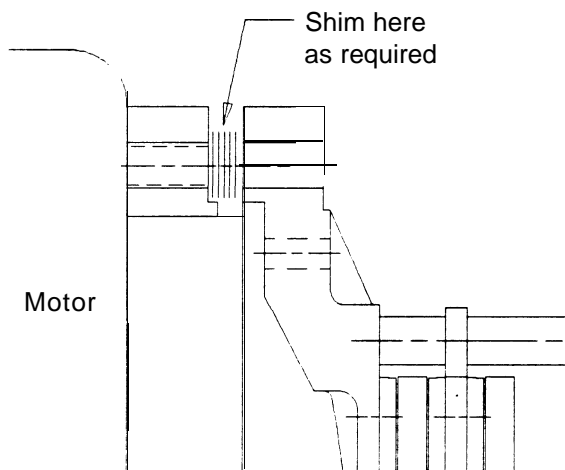

Fig. 8
- 2.6.4 Using a prying tool, adjust the position of the outer disc (4) to ensure that it is resting against the outer spacer plate (102) on the gear.
Note: It may be necessary to add an equal number of shims (101) at each of the four brake mounting points to create a gap between the outer disc and the outer friction disc. See Figure 8.